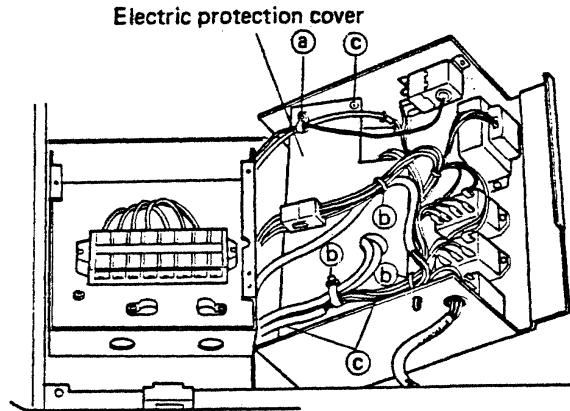

Fig. 5
6) When the three fixing screws (c) are removed, the electric protection cover can be removed. Fig. 5